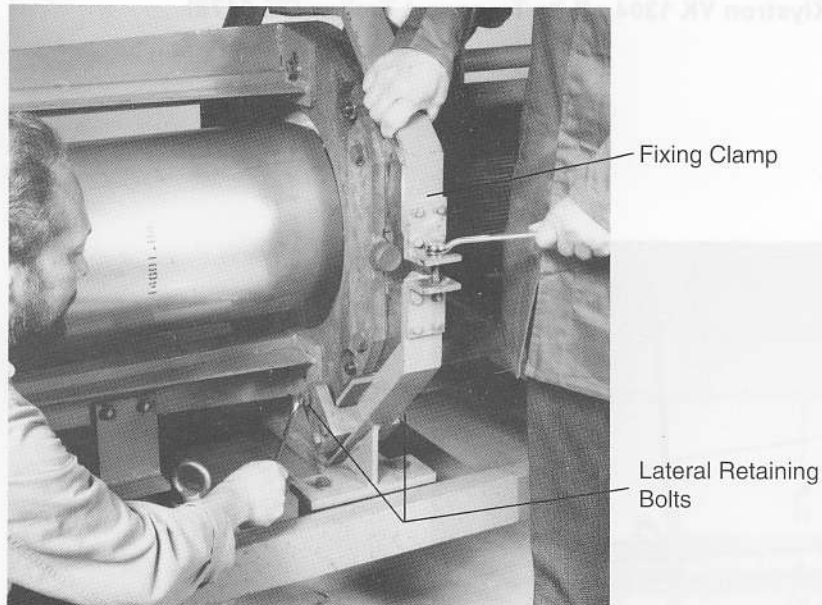

Fig 7. Releasing the Klystron Fixings
- (c) Remove the nut and washer (Fig. 7) and open the fixing clamp around the support flange. Move clamp away from body.
- (d) Loosen the top (yellow), lateral retaining bolt (Fig. 7), one on each side of the support flange.